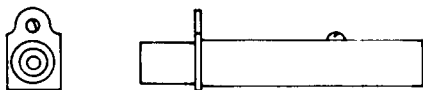

Fig. 24—542A or B Jack
2.20 542A and B: These are coaxial-type jacks (Fig. 24).